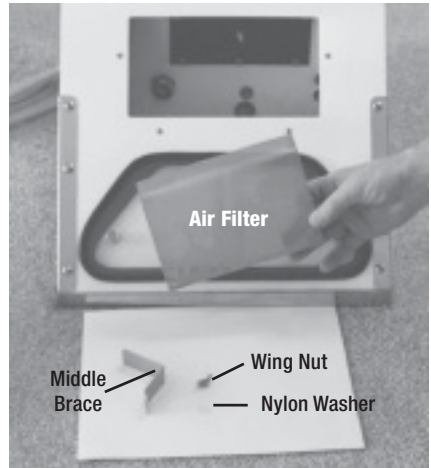

Figure 23: Air Filter Removed
4. Clean Air Filter (figure 23). At least once or twice a month the air filter should be removed and cleaned. Begin by removing the wingnut, nylon washer and the middle brace, then pull out the air filter (figure 23). Thoroughly clean the air filter. When replacing the air filter, make sure it is positioned properly around the black plastic baffle. Then as you are retightening the wingnut, push up on the middle brace to make sure it seats flat against the inside of the recovery tank. **Do not operate the machine without the air filter.** Doing so will dramatically reduce the life and performance of your vacuum motor.